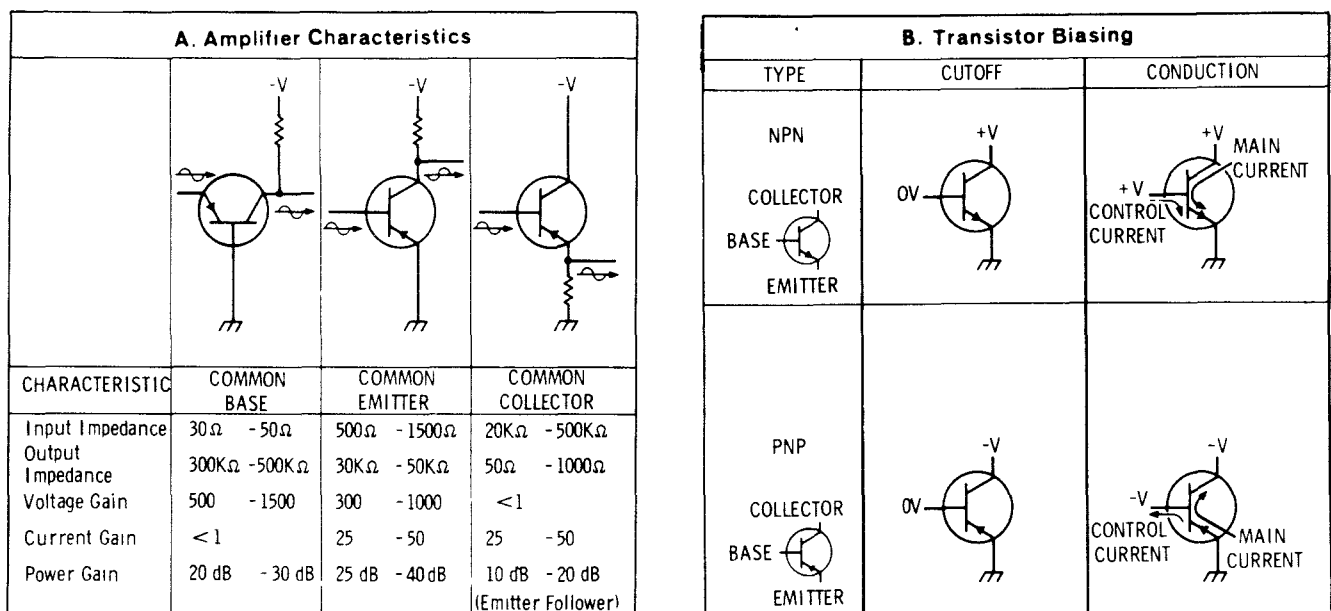

Figure 8-1. Transistor Operation
**8-26. Transistor In-Circuit Testing.** The common causes of transistor failure are internal short circuits and open circuits. In transistor circuit testing, the most important consideration is the transistor base-to-emitter junction. The base emitter junction in a transistor is comparable to the control grid-cathode relationship in a vacuum tube. The base emitter junction is essentially a solid-state diode; for the transistor to conduct, this diode must be forward biased. As with simple diodes, the forward-bias polarity is determined by the materials forming the junction. Transistor symbols on schematic diagrams reveal the bias polarity required to forward-bias the base-emitter junction. The B part of Figure 8-1 shows transistor symbols with the terminals labeled. The other two columns compare
8-27. Figure 8-1, Part A, shows simplified versions of the three basic transistor circuits and gives the characteristics of each. When examining a transistor stage, first determine if the emitter-base junction is biased for conduction (forward-biased) by measuring the voltage difference between emitter and base. When using an electronic voltmeter, do not measure directly between emitter and base; there may be sufficient loop current between the voltmeter leads to damage the transistor. Instead, measure each voltage separately with respect to a common point (e.g., chassis). If the emitter-base